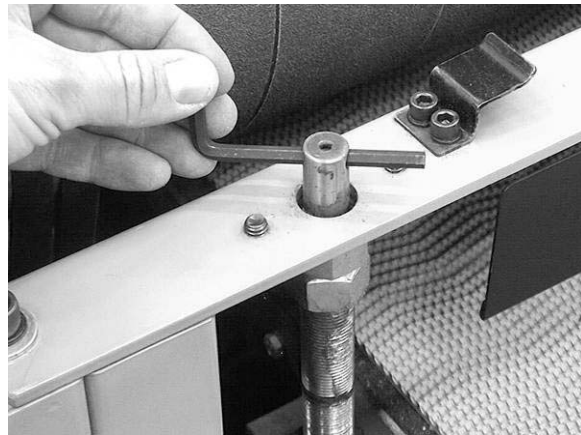

Figure 18
4. Insert a tool, such as a hex wrench or screwdriver, through the hole on top of the leadscrew (Fig 18) at that corner of the table that is lowest.